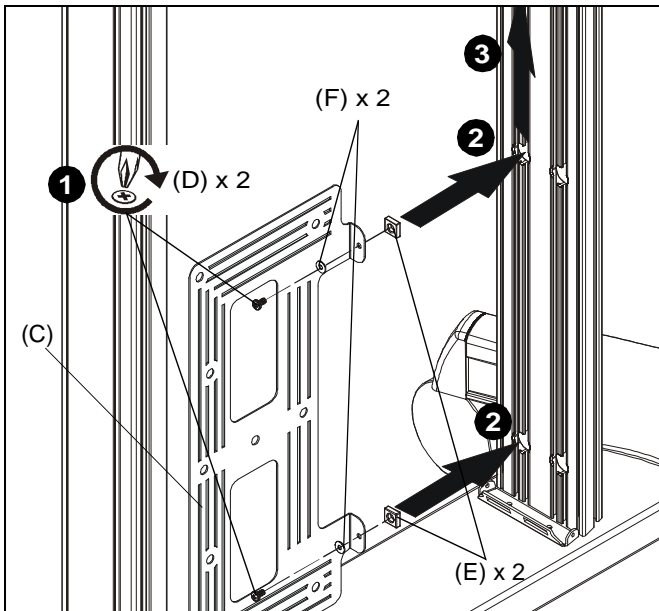

Figure 8
1. Loosely install two #10-24 x 3/8" Phillips head machine screws (D) through two #10 washers (F), holes in component bracket (C) and into two #10-24 square nuts (E). (See Figure 8)
2. Insert two #10-24 square nuts (E) into two openings on column channel. (See Figure 8)
3. Lift component bracket (C) to desired mounting position. (See Figure 8)
4. Tighten screws to a torque force of 10 ft-lbs. (See Figure 8)